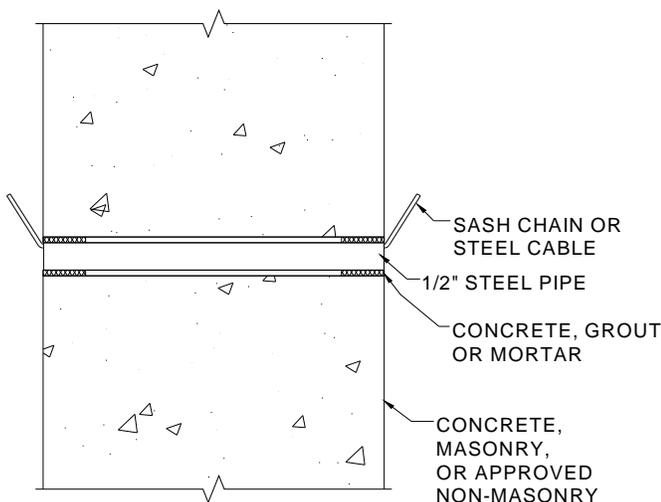

Figure 1
1. Use 1/2" steel pipe as in Figure 1 or use 1/2" EMT conduit as in Figure 2.
3. The ends of the sleeve-through-wall can be sealed as shown in either Figure 1 or Figure 2.